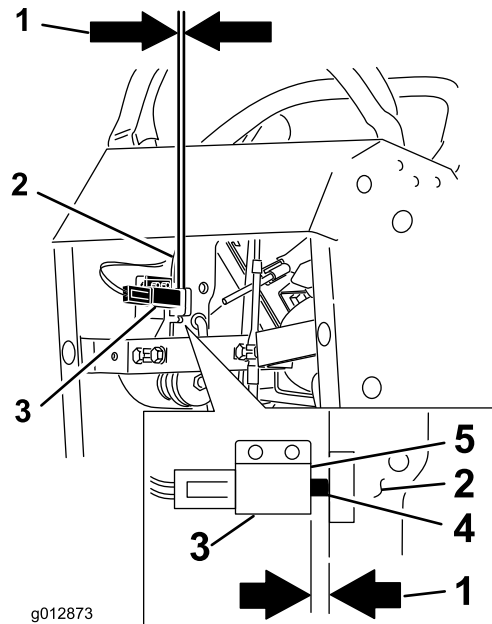

Figure 63
12. Check the gap between the brake lever and the face of the switch as shown in Figure 63. The gap needs to be an 1/8 inch (3mm) with the brake **engaged**.